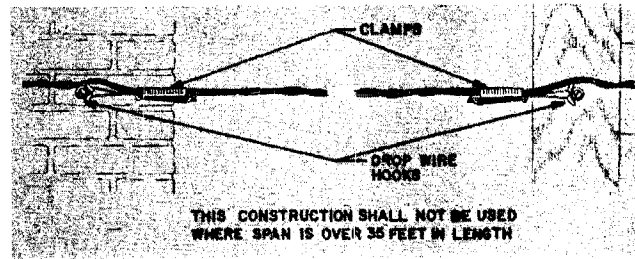

Fig. 12 - Span Less than 35 Feet in Length
- 9.04** Where only a few bridle wires will be run and the span is 35 feet or less in length, the construction shown in Fig. 12 may be employed.